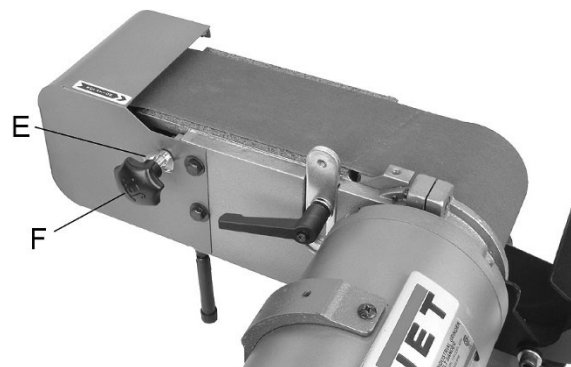

Figure 8-1: belt tracking
3. Loosen wing nut (E, Figure 8-1).
4. Turn knob (F) while moving the belt until belt completely covers drive wheel and stays centered. Turn knob clockwise to shift belt to the right (away from grinder), counterclockwise to shift belt to the left (toward grinder).
5. Tighten wing nut (E) to secure setting.